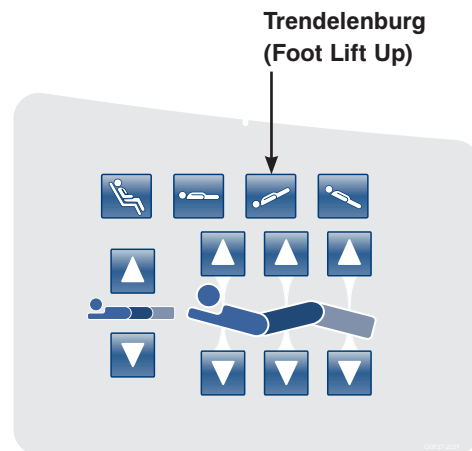

Figure 14: Head Siderail Control Panel
- Place the bed at +12 degrees Trendelenburg by pressing the **Trendelenburg (Foot Lift Up)** button as shown in Figure 14. Verify +12 degrees +/- 0.1 with the inclinometer you previously placed on the litter frame in step 9.